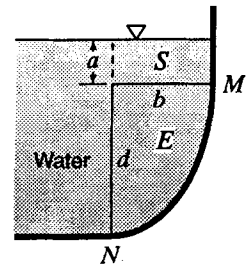

Figure X3.8.9
3.8.9 A tank with vertical ends contains water and is 6 m long normal to the plane of Fig. X3.8.9. The sketch shows a portion of its cross-section where MN is one-quarter of an ellipse with semiaxes b and d . If $a = 1.0$ m, $b = 2.5$ m, and $d = 4$ m, find, for the surface represented by MN, the magnitude and position of the line of action of (a) the horizontal component of force; (b) the vertical component of the force; (c) the resultant force and its direction relative to the horizontal.